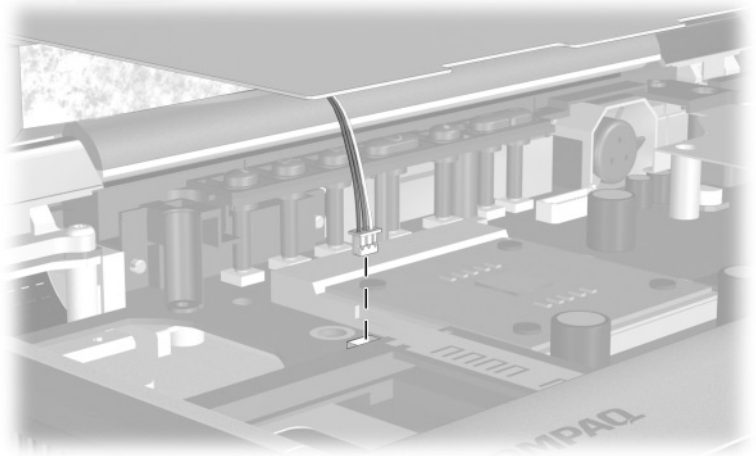

Figure 5-23. Disconnecting the Fan Cable
9. Disconnect the fan cable from the system board (Figure 5-23).